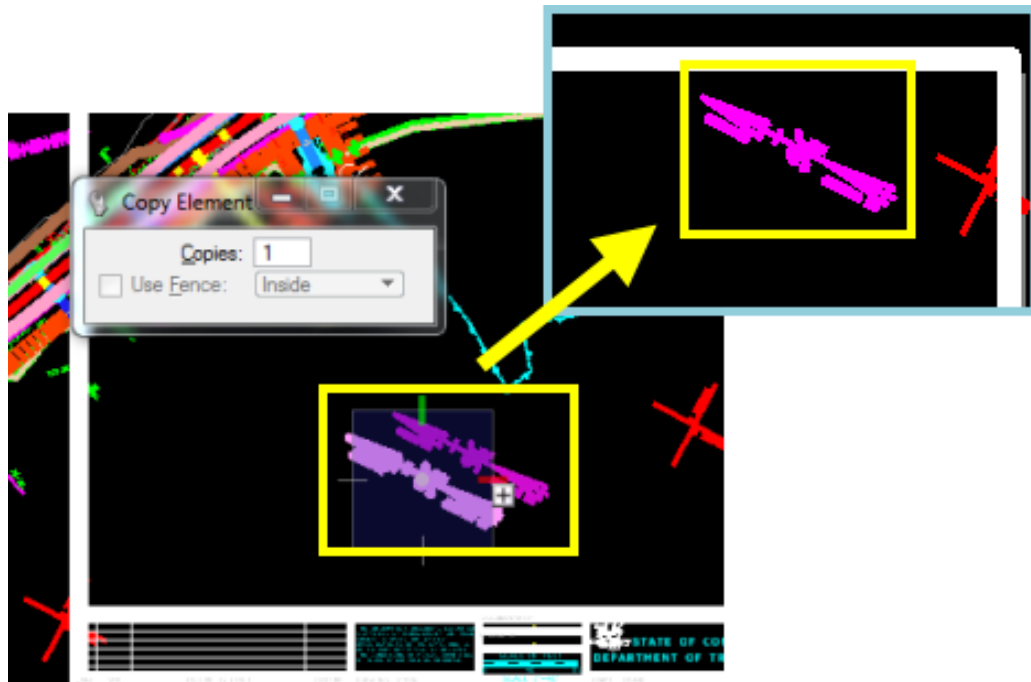

Figure 48 - Copy North Arrow
- Before you clip your reference files, **copy** the **North Arrow** from the Survey Ground file (Figure 48) into your sheet model (this is the **only** item/cell you will copy from the survey file). Scale as needed for the scale of your plan sheet (20, 30 or 80 scale).